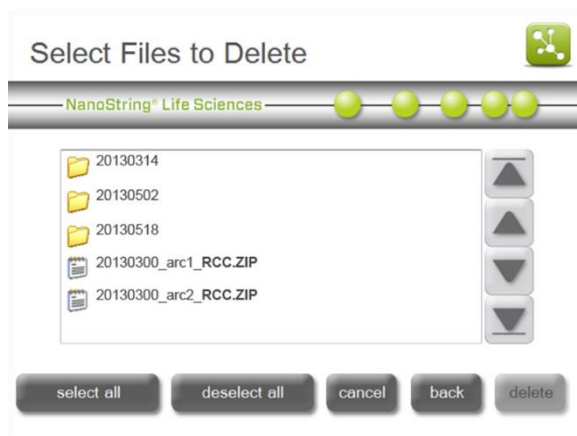

Figure 156: The 'Select Files to Delete' screen.
1. To cleanup RCC files, press **RCC** on the 'Disk Cleanup' screen. The 'Select Files to Delete' screen will appear (**Figure 156**).